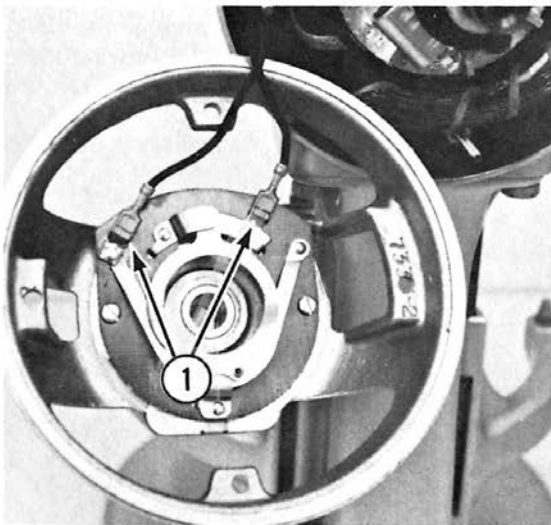

Fig. 3-6
- G. Disconnect the two leads (1, Fig. 3-6) to the start switch.